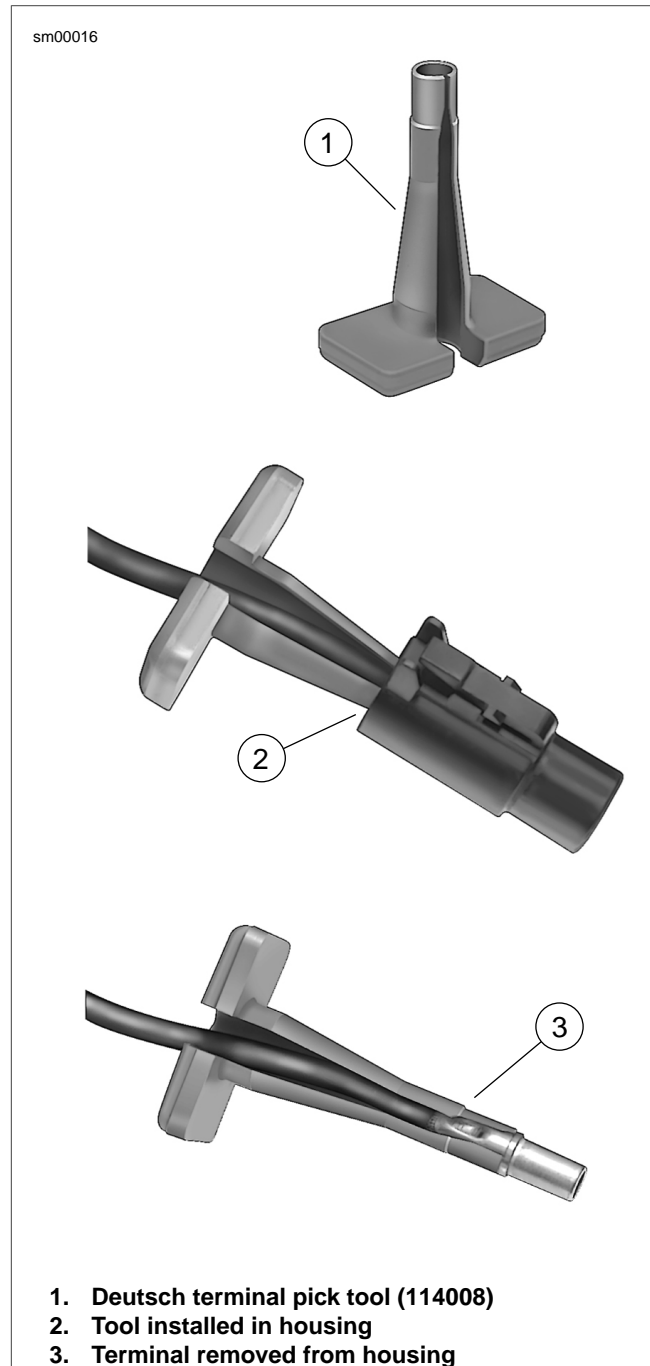

Figure A-12. Deutsch 1-Place Connector: Remove Socket/Pin Housing
2. See Figure A-12. Using terminal pick tool (Deutsch® 114008) (1), install tool onto voltage regulator cable so that the tapered end is in the wire end of the housing (2).
3. Push tool into wire end of housing until it bottoms. Gently tug on housing to pull from terminal (3).
See Figure A-12. To separate the connector halves, depress the external latch(es) (1) on the socket housing (2) while rocking the pin (3) and socket housings.